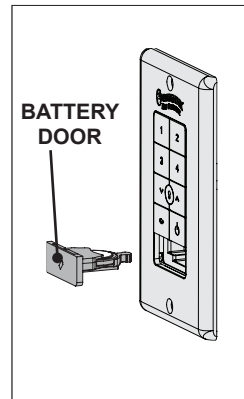

Figure 21
1. Before operating the wall control, open the battery holder by pressing in on the battery door. Remove the protective film from the battery. Replace the battery holder. Figure 21.